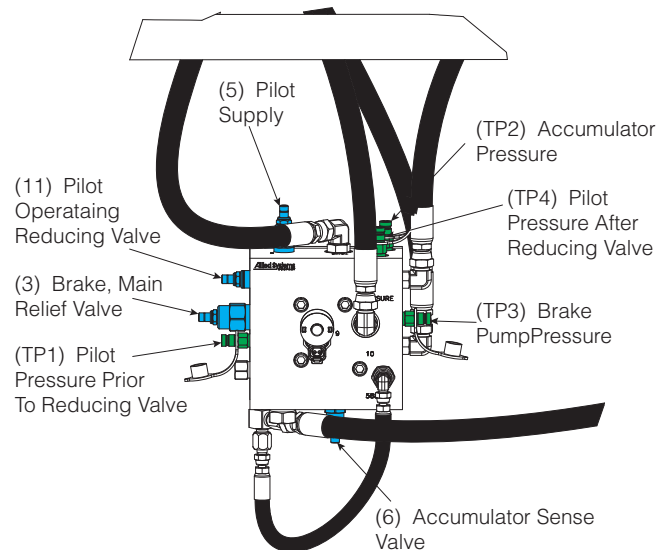

Figure 4 - Accumulator Charge Manifold
6. With pressure gauge at TP1, temporarily set (5) pilot supply valve cartridge to 550-750 psi (see Figure 4).
7. With pressure gauge at TP4, set (11) P.O. reducing valve cartridge to 450 +/-25 psi.
8. With pressure gauge at TP1, set (5) pilot supply valve cartridge to 450 +/- 25 psi.
9. With pressure gauge at TP2, temporarily set (6) accumulator sense valve cartridge to 3300-3500 psi, (may require increasing the setting of the (3) brake, main relief valve cartridge).
10. With pressure gauge TP3, set (3) brake, main relief valve cartridge to 3100 +/- 25 psi.
11. With pressure gauge at TP2, set (6) accumulator sense valve cartridge to 2900 +/- 25 psi (High Limit).